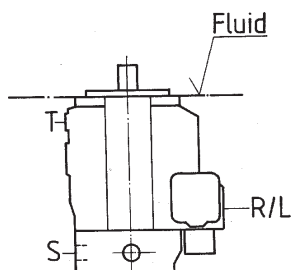

Fig. 1
a) When the minimum fluid level is the same as or is above the pump flange area then: ports »R/L«, »T« and »S« are open (see fig. 1).